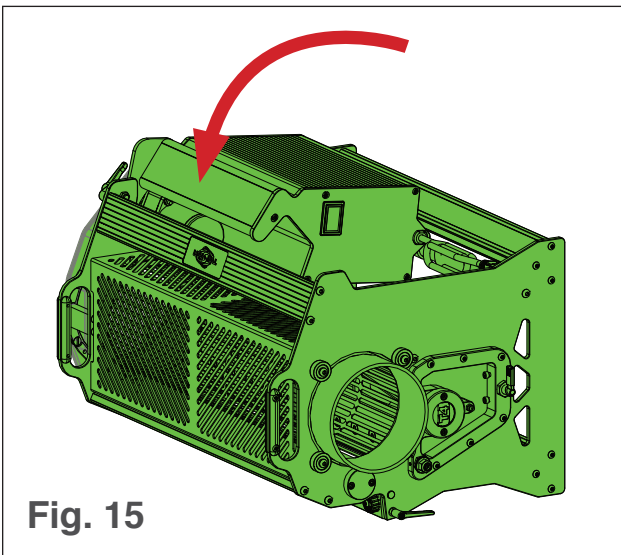

Fig. 15
1. Carefully rotate the T4 onto its side so it rests on the adjustment bar (see Fig. 15).